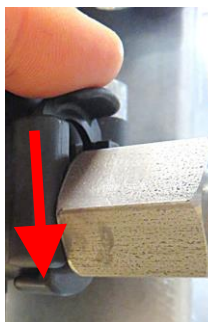

Figure 15
17. On the outlet side of the ATO pump, push down on the quick disconnect lock clip, to unlock the fitting and remove the flexline assembly (see Figures 15 and 16).